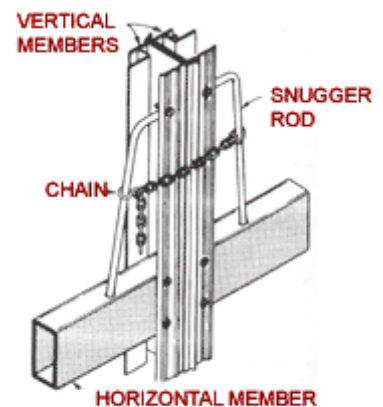

FIGURE 13
4.) Secure opposite end of snugger rod to vertical member using one (1) 1/4" fastener and nut. **Fig. 13**
9.) After making certain the "S" hook is in the proper link (latched chain should be about 6" from top of horizontal member), close the "S" hook slightly so it will become detached from chain **Fig.13**.